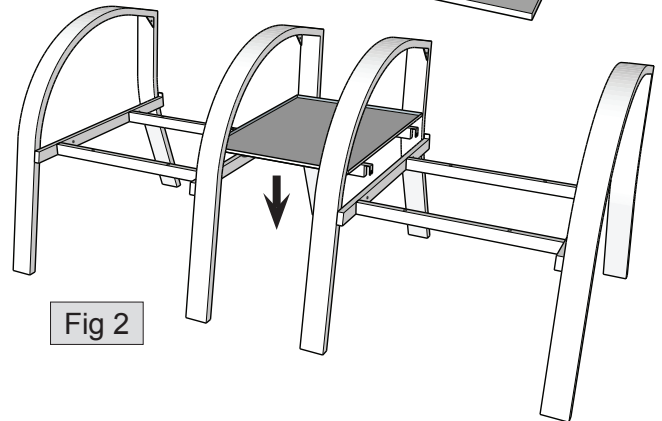

Fig 2
5. Position chairs about 10" apart and place connecting table between them, as shown in figure 2.